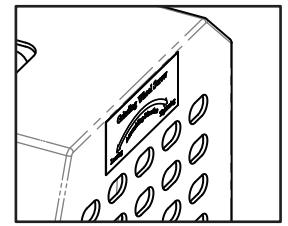

Fig. 13-1
- ① Unplug the power cord and make sure the power is off.
- ② Confirm the screw direction on the grinding wheel cover before changing the grinding wheel. (Fig. 13-1)